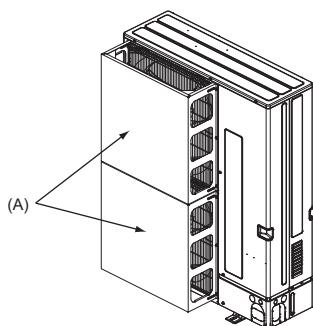
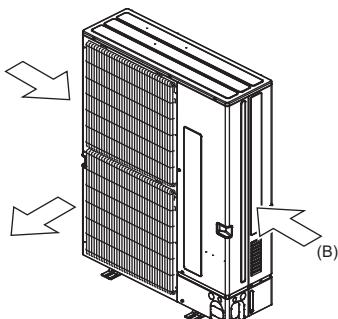

Fig. 2-4
Fig. 2-5
- (2) Install an optional air protect guide if the unit is installed in a location where strong winds from a typhoon, etc. may directly enter the air outlet. (Fig. 2-4)
- (A) Air protect guide
- (3) Position the unit so that the air outlet blows perpendicularly to the seasonal wind direction, if possible. (Fig. 2-5)
- (B) Wind direction